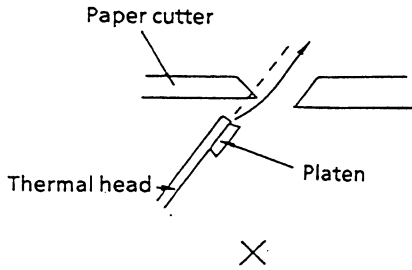

Figure 6-3 Incorrect Paper Cutter Mounting 1
- A layout such as that shown in Figure 6-3 may cause poor contact between the platen and the thermal print head, adversely affecting print quality.